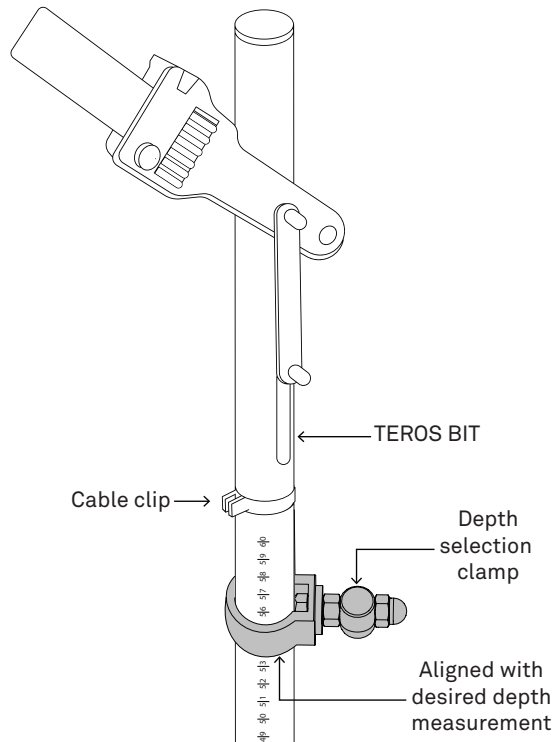

Figure 17 Depth selection clamp
1. Attach the depth selection clamp at the desired depth marked on the handle or extension rod (Figure 17).